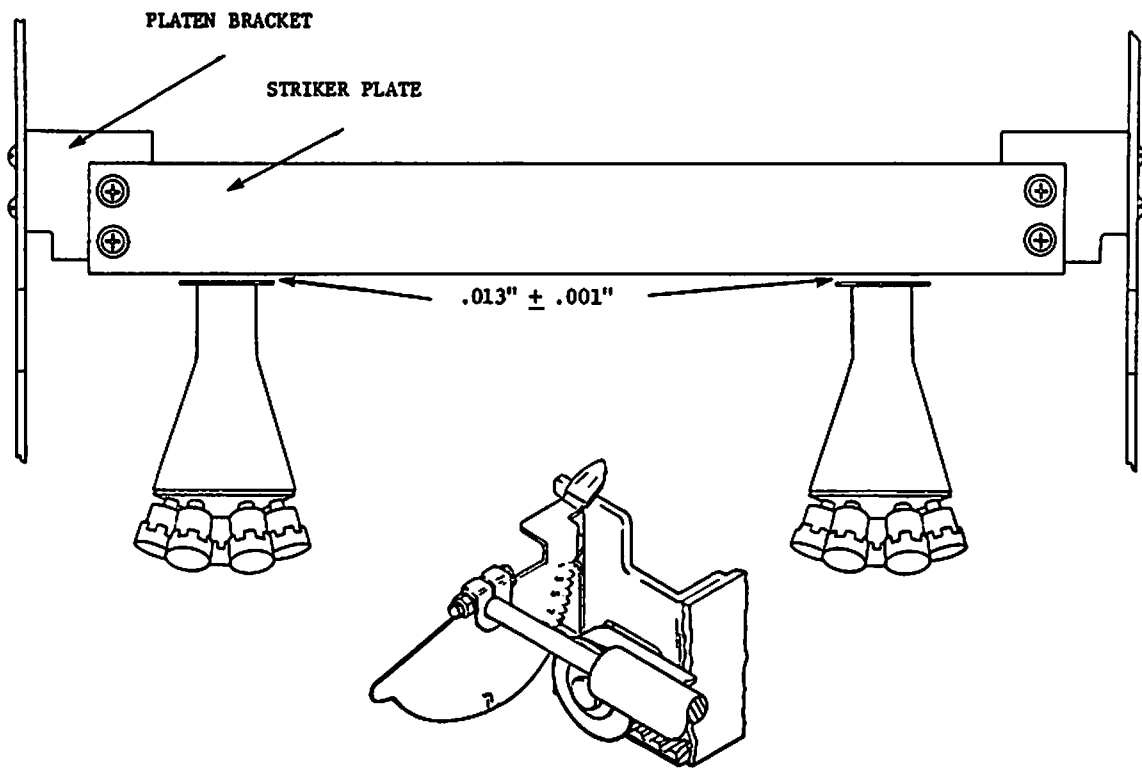

FIGURE 5-5 STRIKER BAR ADJUSTMENT
5.3.3 STRIKER PLATE AND PLATEN BRACKETS (Figure 5-5)